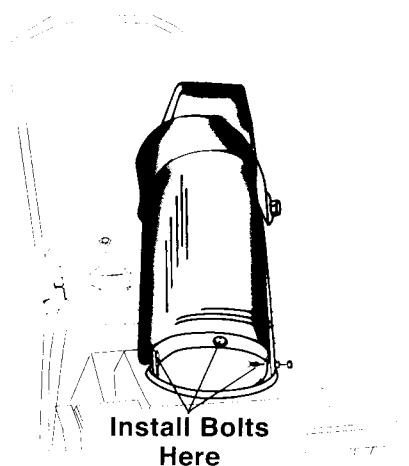

FIGURE 1
1. Install discharge chute on the rotating ring located on the auger housing. Secure with three 5/16 inch carriage bolts, flat washers and nylok nuts. Install the rear bolt first for easier alignment. You will find the hardware in the parts bag. See figure 1.